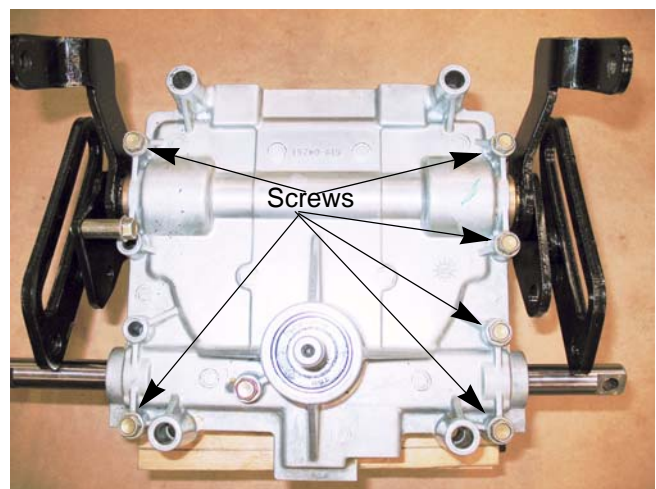

Figure 6.31
3. Remove the brackets from the steering gearbox using a 3/8" wrench. See Figure 6.31.